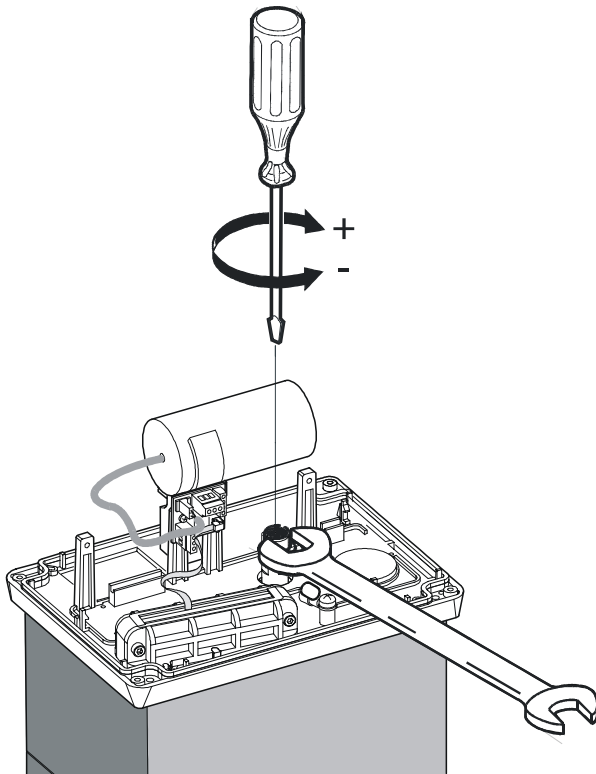

Fig. 26
- 2) Keep the motor shaft locked with a wrench, and turn the clutch adjustment screw with an Allen wrench or screwdriver (Fig. 26).